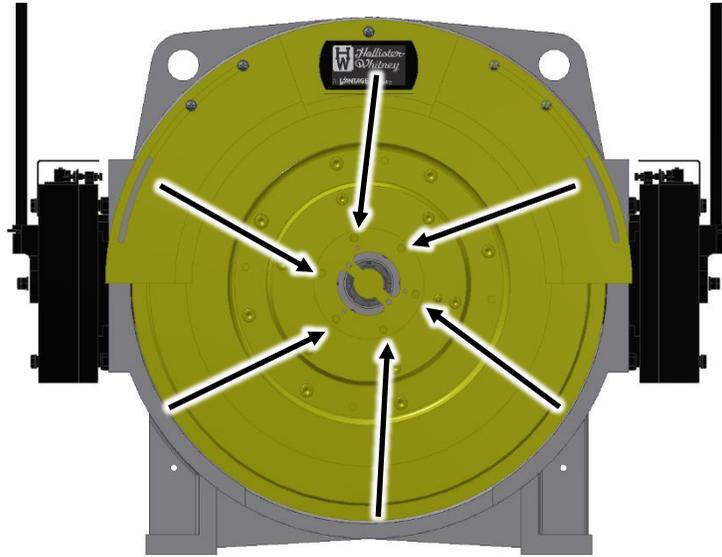

Figure 21
5. Remove the six M6 bolts (using a hex wrench (5mm)). See Figure 21.